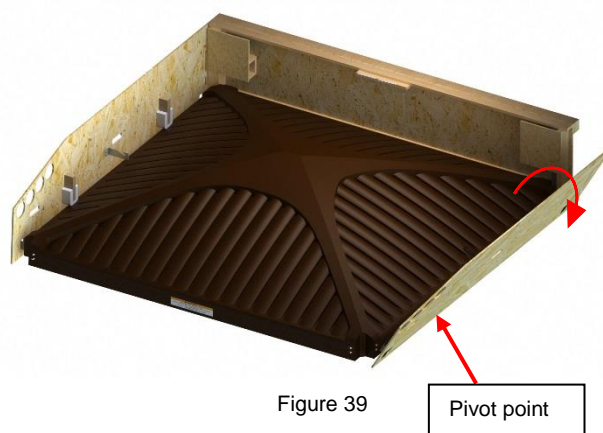

Figure 39
- 21) Pivot the side panels by gently prying them outward; lay the panels down on the ground. There is one panel per side. (Figure 39)